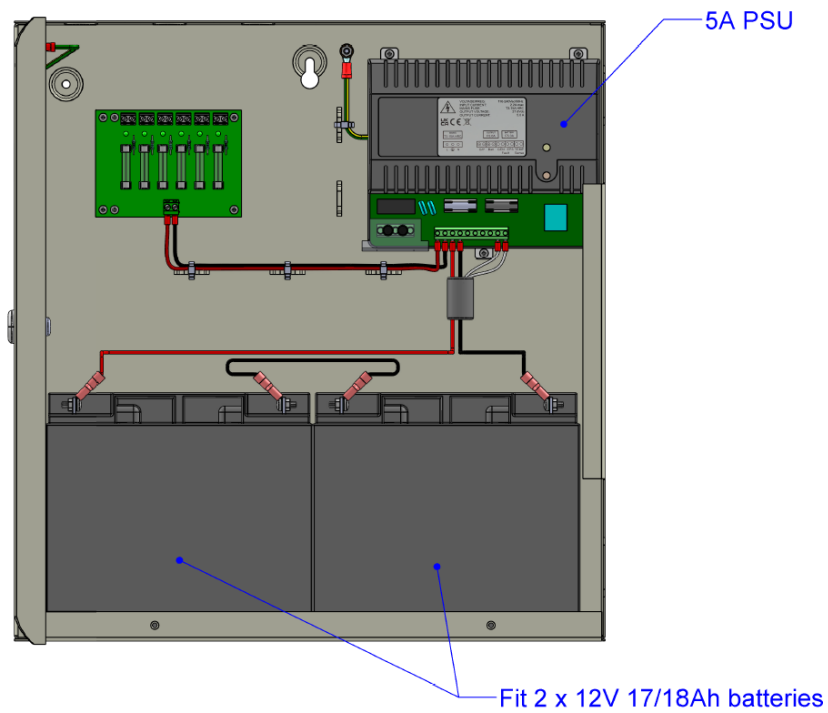

Figure 2 - Battery fitting and assembly
- 9) Mount the appropriate batteries as shown in Figure 2. Where a dual box solution is used all cabling between the two boxes should be routed to use separate case entry/exit holes from other cabling and use suitable bushes to protect the cables.
- 11) Connect the PCB terminals Batt+ and Batt– to the free Positive and Negative terminals of the batteries using the cables provided. See Figure 2 and 3. **With the cable pair ALREADY screwed into the battery terminals the FINAL connection MUST be to the battery itself.**